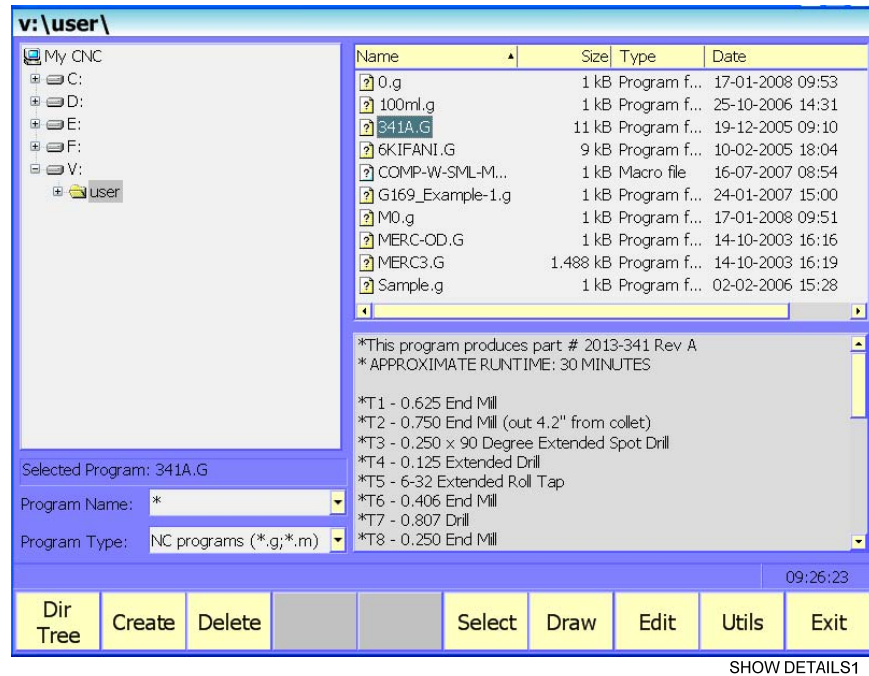

Figure 10-4, Show Details Screen
- Select **Show Details (SHIFT + F7)** to show the Program Manager details (part program names (ending with .G extensions) along with size, date, and time of last edit). Refer to **Figure 10-4, Show Details Screen**.